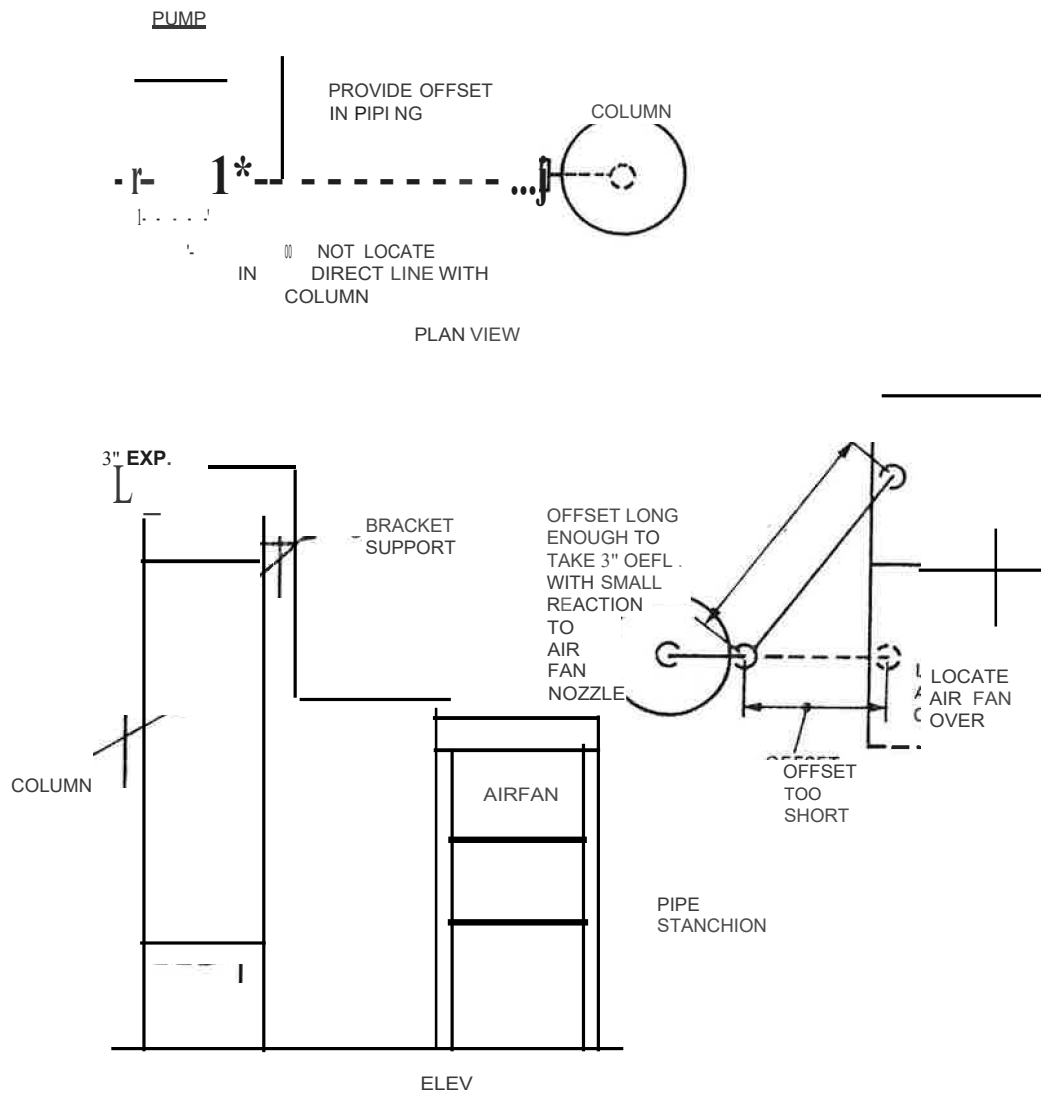

Figure 12-15.
See Figure 12-15
- (2) Routing of overhead vapor line to exchangers and air fans - See Figure 12-15